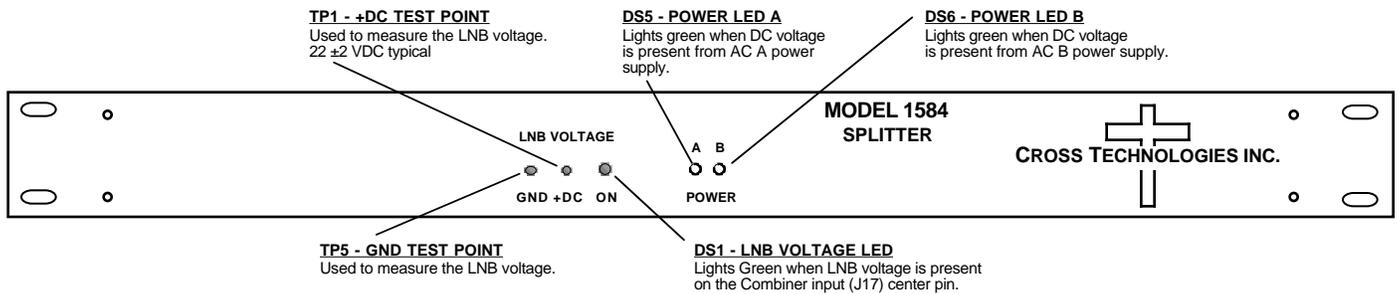

FIGURE 2.2 1584-29/29S Front Panel
Figure 2.2 shows the front panel monitors and indicators.
2. Connect 100-240 \pm 10% VAC, 47 - 63 Hz to AC on the back panel and observe that the AC POWER LED is lit on the front panel (Figure 2.2).